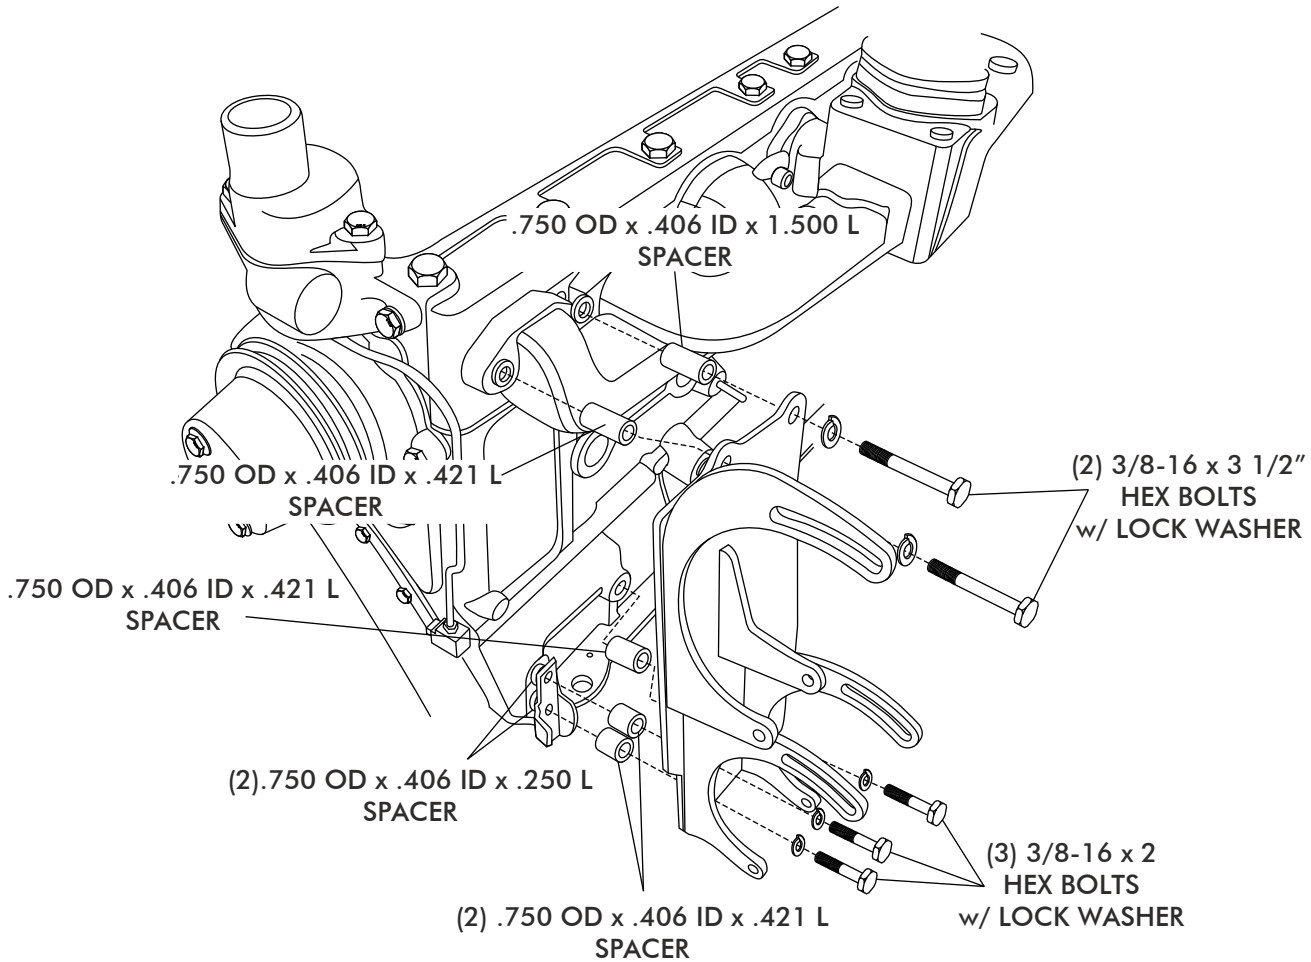

FIGURE 2
5.	COMPRESSOR/ ALTERNATOR MOUNTING BRACKET INSTALLATION FIGURE 2
- INSTALL COMPRESSOR/ ALTERNATOR MOUNTING BRACKET TO ENGINE USING, (5) 3/8 BOLTS w/ (5) LOCK WASHERS AND (7) SPACERS, AS SHOWN IN FIGURE 2.